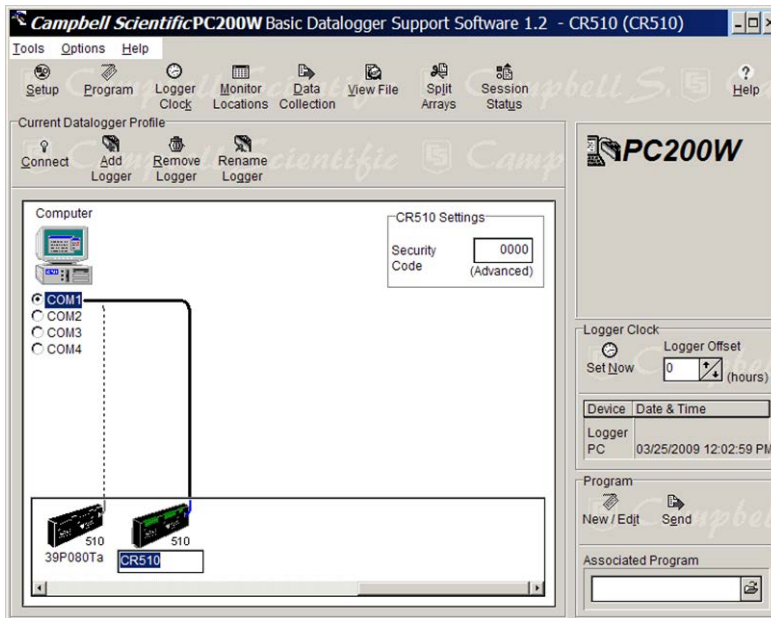

Figure 21: Adding a new station in PC200W.
6.4.2.6 In the small “Add logger” window, select the CR510 from the list of dataloggers and click “OK”. A new CR510 icon will appear in the Setup screen. See Figure 21.